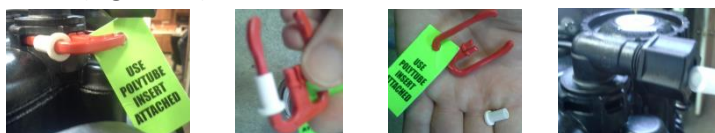

Figure 14: Installing Brine Line Polytube
1. A red latch with a Polytube insert attached is placed under the brine inlet of the valve. Place this insert in the brine line before connecting it to the brine inlet. (Figure 14)